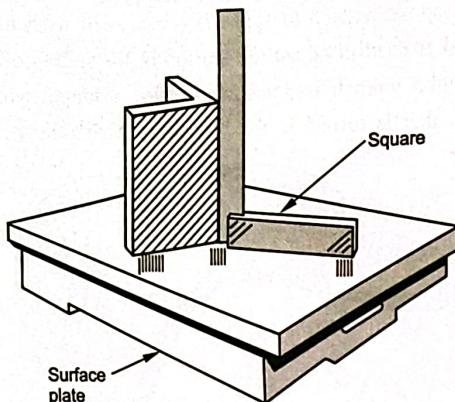

Fig. 1.34. Use of Surface Plate.
2. as a reference surface for all other measuring instruments having flat bases like V-blocks, angle plates, sine bars, height gauges, dial gauges and comparators as shown in Fig. 1.34.